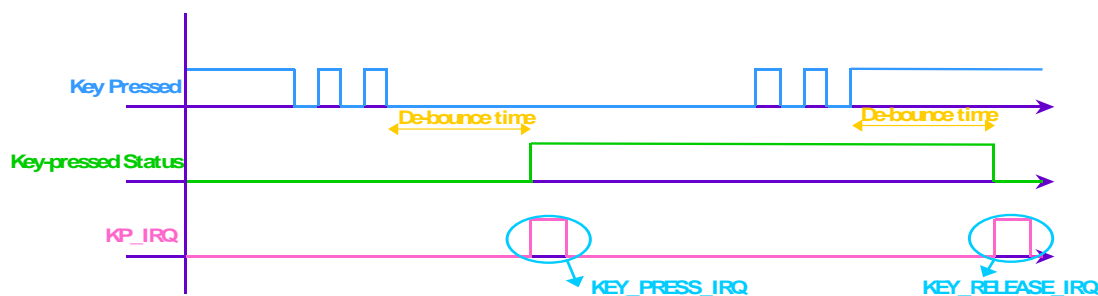
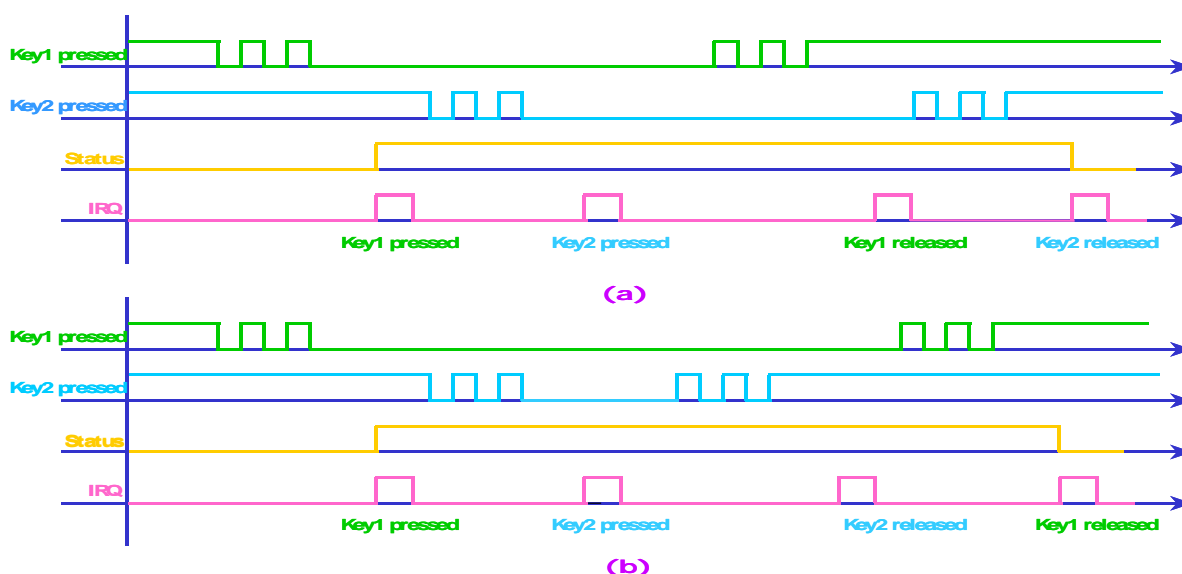

Figure 14-3. One key pressed with de-bounce mechanism denoted
Figure 14-4. (a) Two keys pressed, case 1; (b) Two keys pressed, case 2
This keypad detects one or two keys pressed simultaneously with any combination. Figure 14-3 shows the condition when one key is pressed. Figure 14-4(a) and Figure 14-4(b) illustrate the cases of two keys pressed. Since the key pressed detection depends on the HIGH or LOW level of the external keypad interface, if the keys are pressed at the same time, and there exists a key that is on the same column and the same row with other keys, the pressed key cannot be correctly decoded. For example, if there are three key pressed: key1 = (x1, y1), key2 = (x2, y2), and key3 = (x1, y2), both key3 and key4 = (x2, y1) will be detected, and therefore they cannot be distinguished correctly. Hence, the keypad detects only one or two keys pressed simultaneously in any combination. More than two keys pressed simultaneously in a specific pattern will retrieve wrong information.